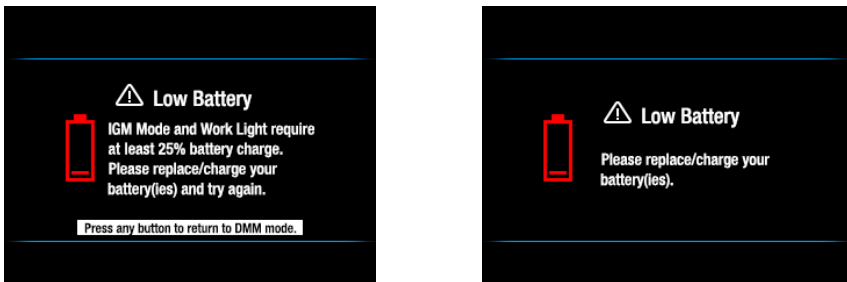

FIG. 5-1 Low Battery Alerts
2. If the battery indicator  shows that the battery voltage is low, if one of the Low Battery screens appears (Fig. 5-1), or if the meter does not power on, replace the three (3) 'AA' batteries. See Section 13.2, Battery Replacement. If using the Model TA04 charging system, please recharge the rechargeable battery.